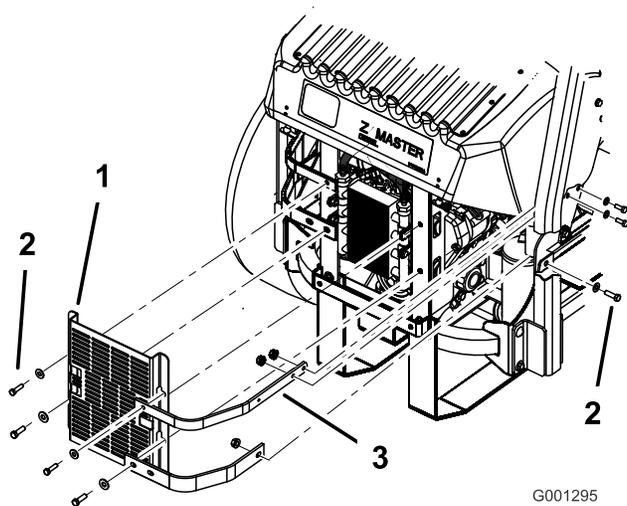

Figure 63
3. Remove the 4 bolts holding the oil cooler shield to the rear frame (Figure 63).
4. Remove the 3 bolts holding the engine straps to the side of the machine (Figure 63).
12. Install the oil cooler shield and engine straps to the rear frame with the 4 bolts previously removed (Figure 63).
13. Install the engine straps to the side of the machine (Figure 63).